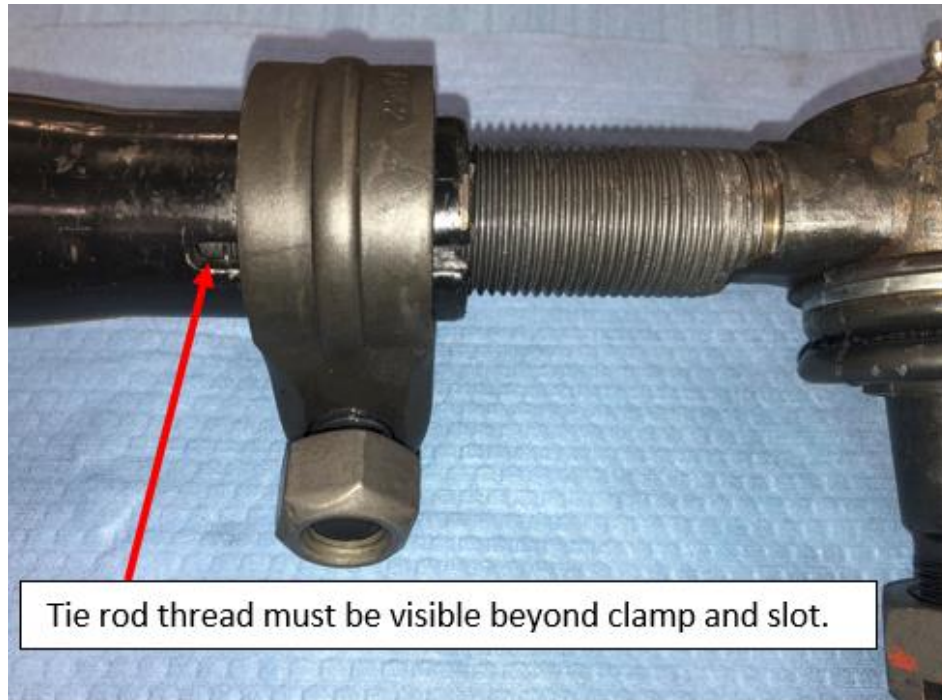

Fig. 6, Clamp Position and Tie Rod Thread Engagement
- c. Threaded tie rod end should also extend into the tube beyond the cut/slot and clamp positioned like below. See Fig 6.